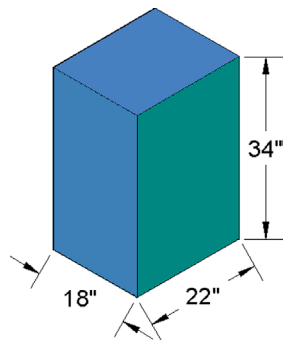

FIGURE 24.18 Wastebasket, Step 1.
Step 1. Clear your screen of previous work, and make sure you are in the SW Isometric view. Starting from the beginning, draw a 22" × 18" rectangle and extrude it to 34". The result is a block of material similar to what we just created when we practiced the taper command. It is shown shaded, we use a different color, in Fig. 24.18.